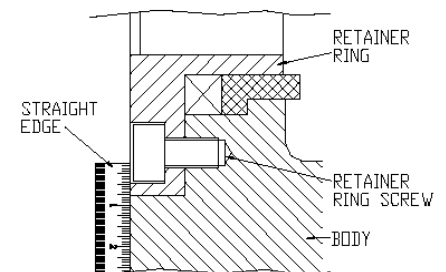

Figure 8
8. Using a straight edge, tighten the bolts until the retainer rings are flush with the valve body as shown in Figure 8.